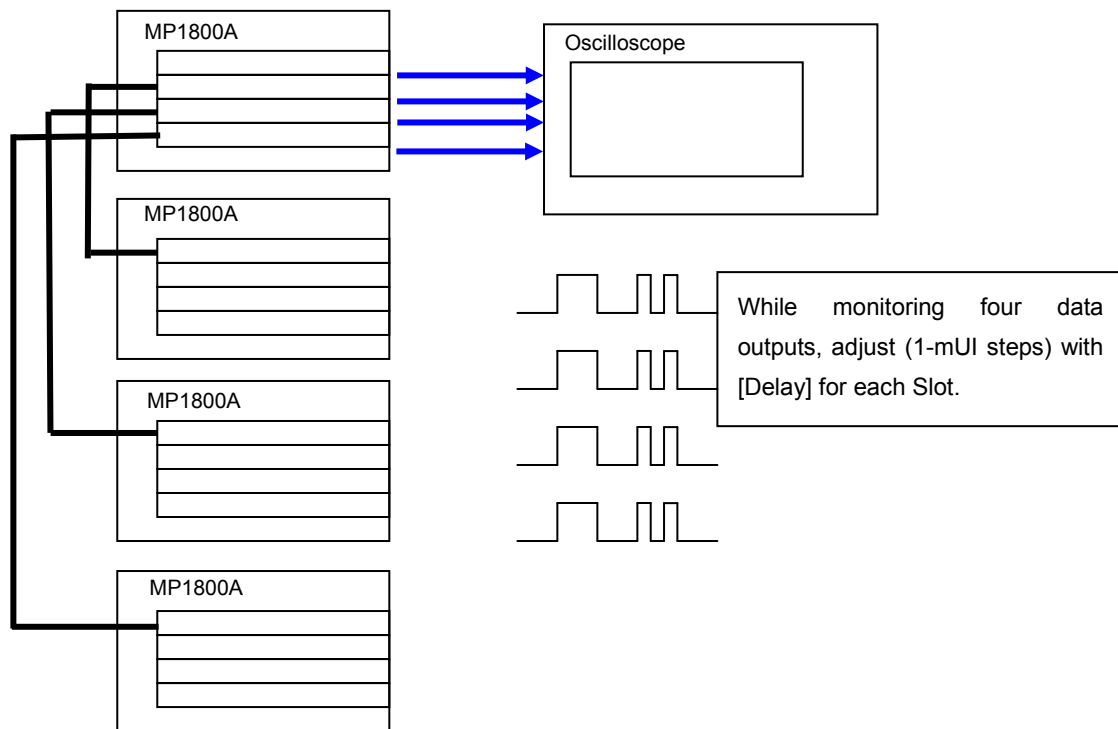
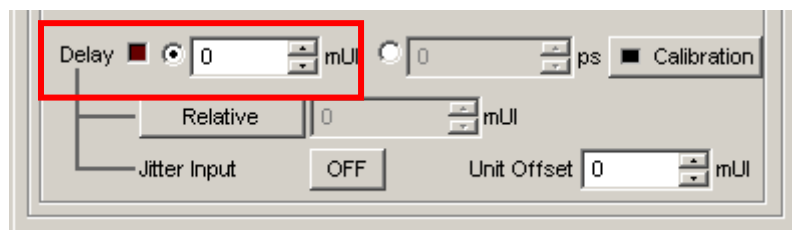

Figure E.1.2-1 Adjusting Output Pattern between Modules
Figure E.1.2-2 Delay Setting Screen
4. While monitoring the data output of Slot 1 to Slot 4 of each main frame with an oscilloscope, adjust the [Delay] setting at the [Output] tab for each slot to minimize the bit drift. Make this adjustment at all four main frames (Figure E.1.2-1 and Figure E.1.2-2).